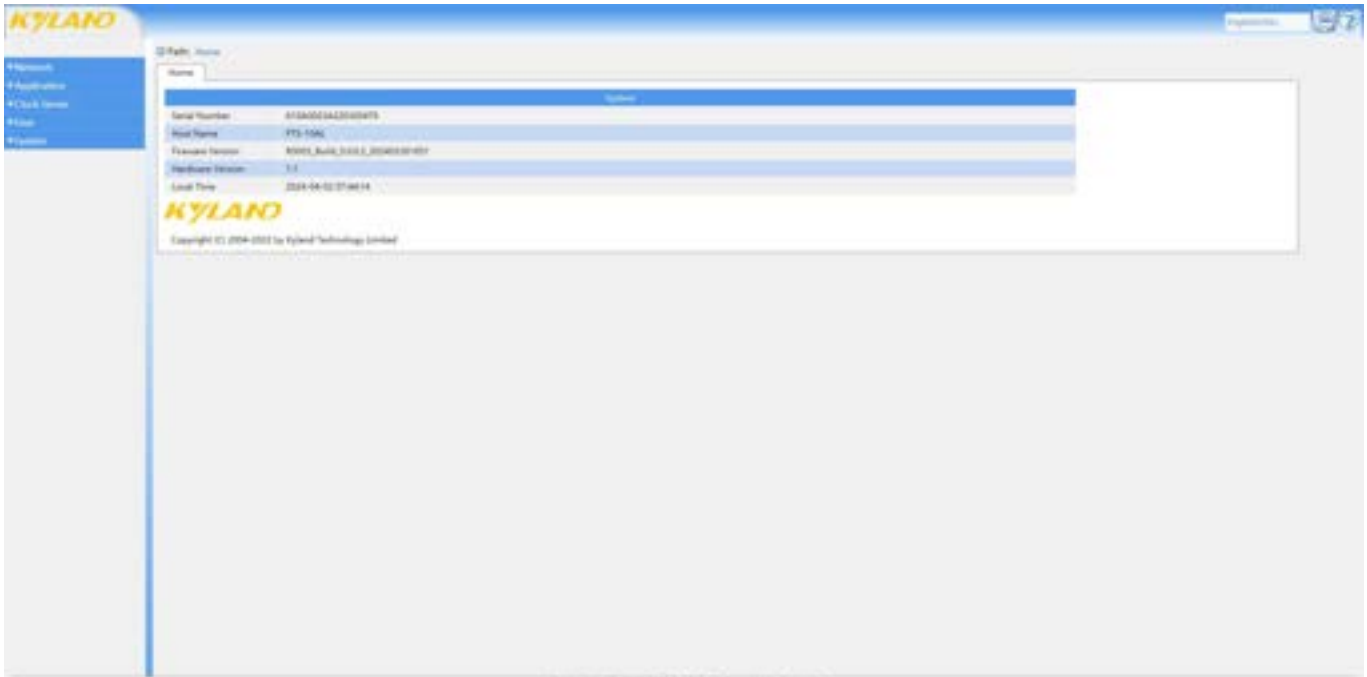

Figure 3 Web interface
2. At this time, successfully log in to the device page, and the configuration navigation tree is on the left, as shown in Figure 3;
Click the menu in the navigation tree to expand/close the menu item. Click  to link to the Web shown in Figure 3